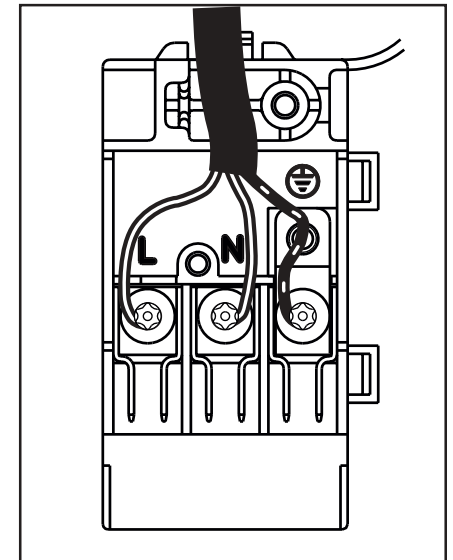

Fig. 5-c
- exert a light pressure and lift (Fig. 5-b)